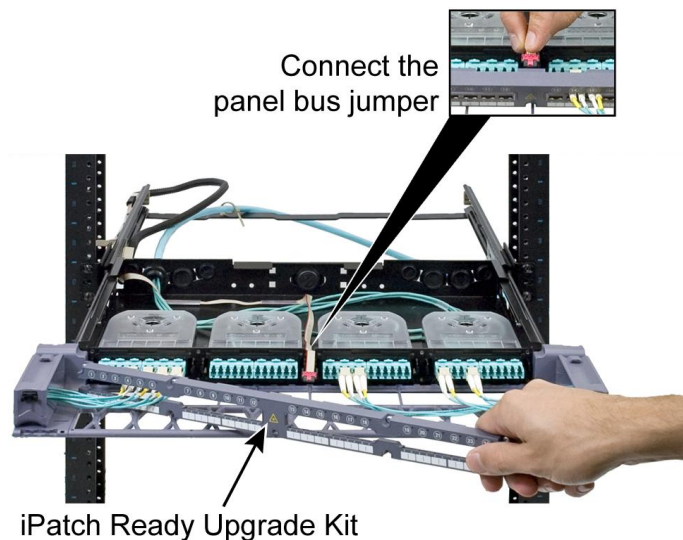

Figure 13 Aligning the Upgrade Kit and Connecting the Panel Bus Jumper
1. Align the **iPatch Ready Upgrade Kit** with the front of the panel, arranging the patch cords as shown (Figure 13). Then, connect the panel bus jumper to the back of the kit.